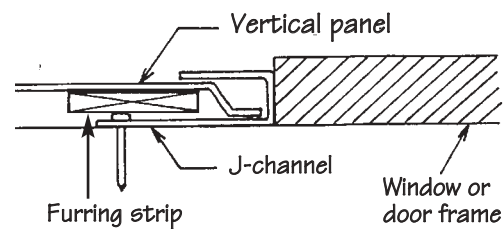

Figure 58.
- If the panel is uncut or cut down in the "V"-shaped groove of a piece of vertical siding, simply insert it into the J-channel, locking the other side onto the previously applied panel (Fig. 58). A furring strip should be installed to prevent panel detachment.